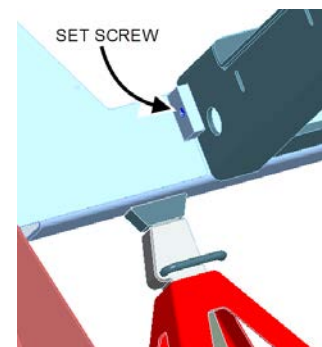

Figure 66
- After checking all dimensions, install 1/2" UNC set screws on the jacking plates on cross-members, to hold decks in place (**Fig.66**). The 1/2" UNC set screws are found in the hardware kit. Also tighten bolts mounting decks to front and rear cross-members (see **Fig.18** and **Fig.29**).